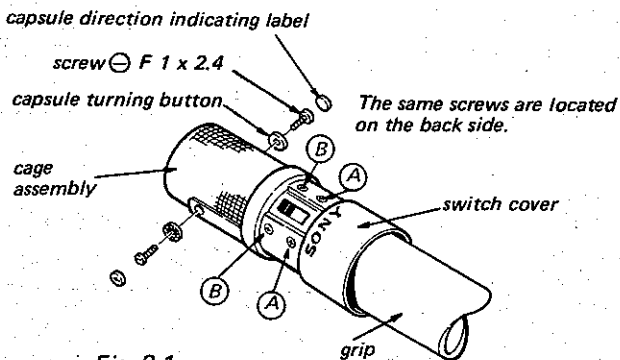

Fig. 2-1.
### 2-1. Grip Removal (Refer to Fig. 2-1.)
2. Remove the four screws marked (A) in Fig. 2-1.
### 2-2. Cage Removal (Refer to Fig. 2-1.)
3. Remove the four screws marked (B) in Fig. 2-1.